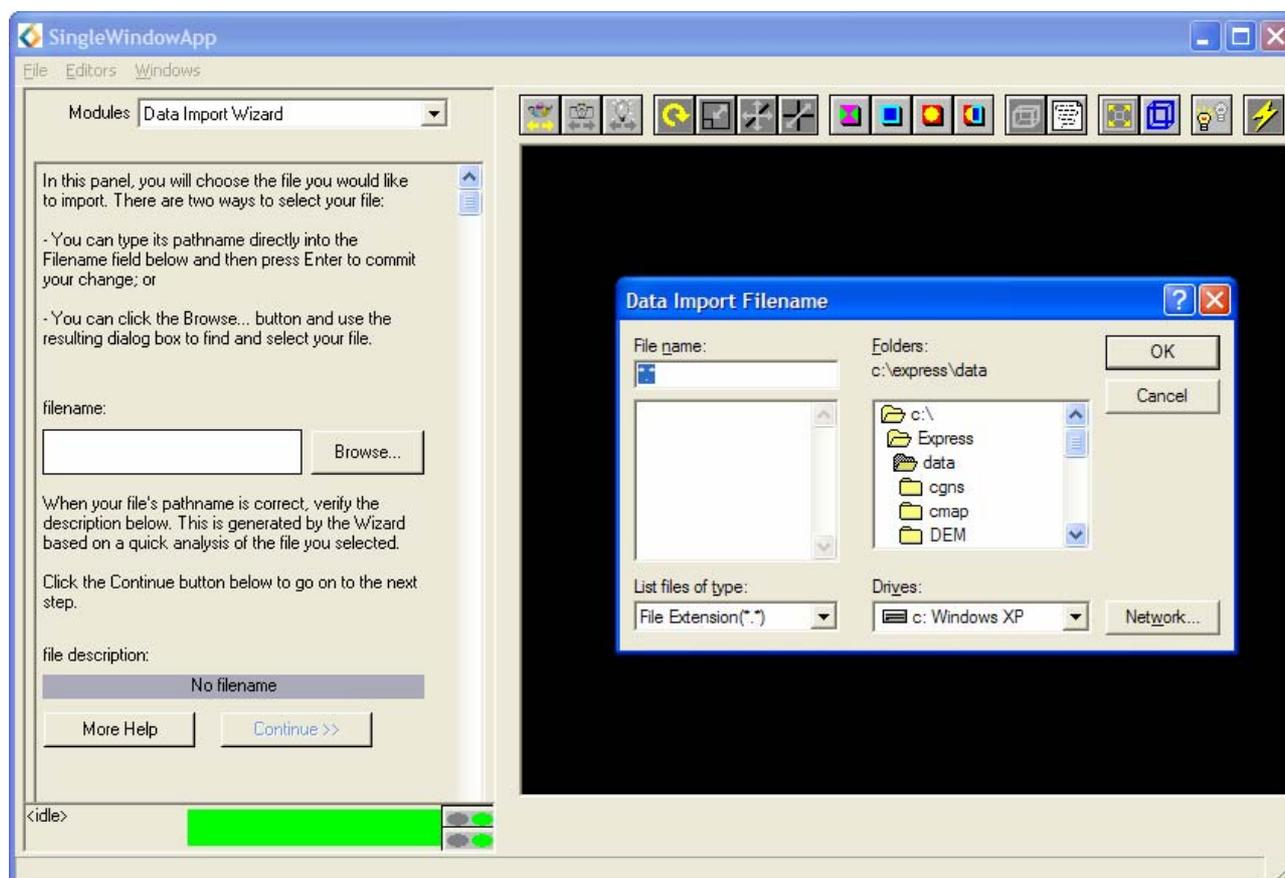

Figure C.22: Data Import Filename browser
- The Data Import Wizard **Modules** Editor panel should be open as shown in Figure C.22. Select the **Browse** button.